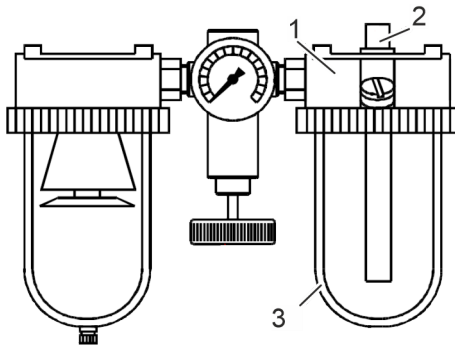

Fig. 26: Oil mist lubricator
2. ➤ Fill the oil tank (Fig. 26/3) with oil. Note the operating instructions for the service unit for compressed air.